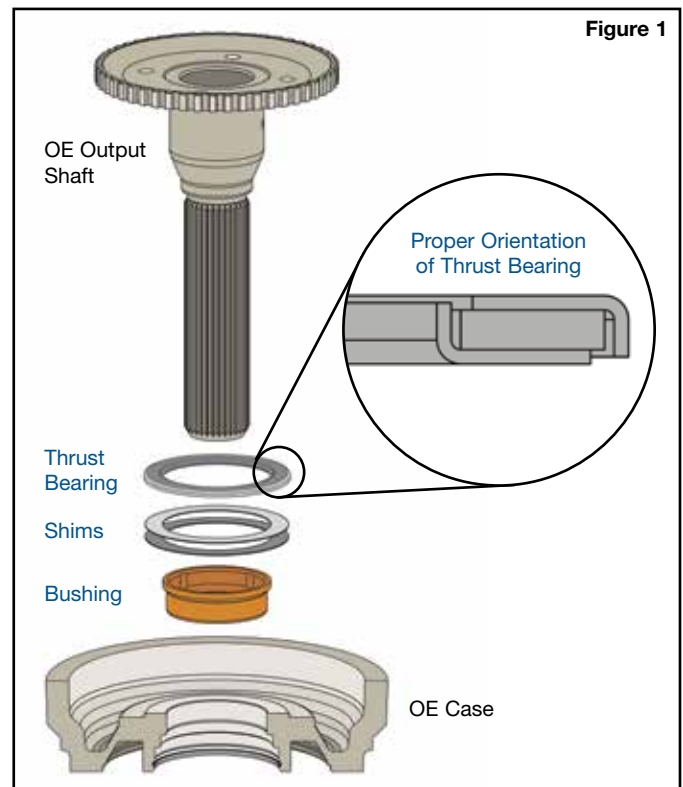

Figure 1
- d. Install Sonnax thrust bearing around the bushing's flange and against the shims in proper orientation (**Figure 1**).